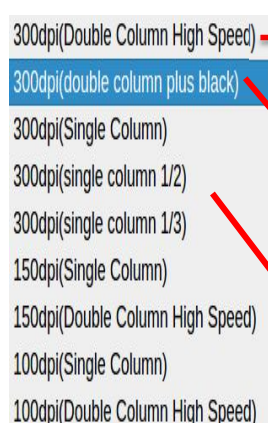

Figure 5-26
**Vertical resolution set:** as shown in Figure 5-26